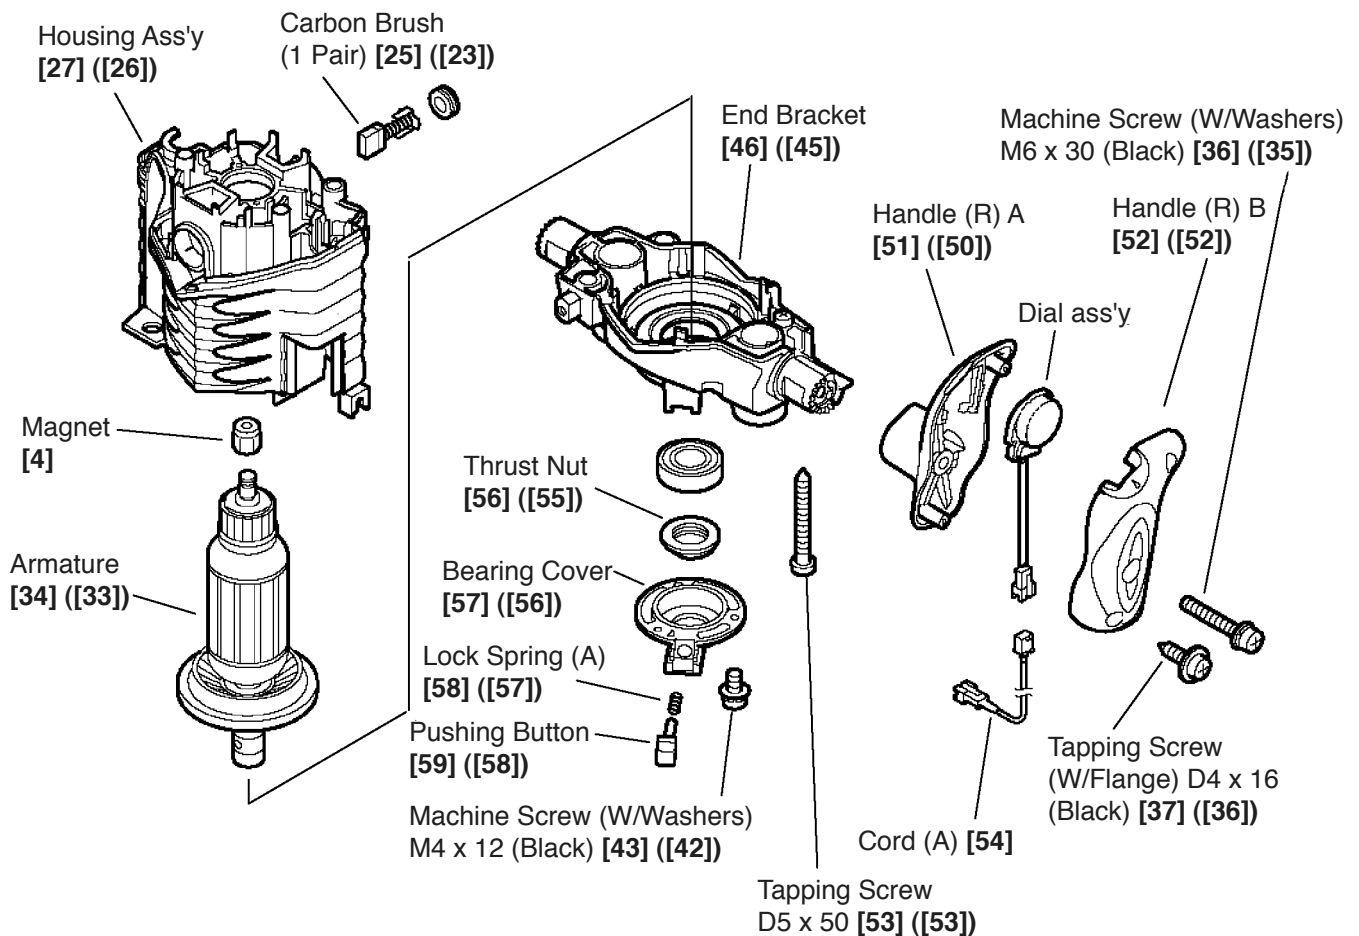

Fig. 5
- (4) Remove the Armature [34] ([33]) and the End Bracket [46] ([45]) (Fig. 5)
- Loosen and remove the two Tapping Screws (W/Flange) D4 x 16 (Black) [37] ([36]) and the Machine Screw (W/Washers) M6 x 30 (Black) [36] ([35]), and remove Handle (R) B [52] ([52]).
- Disconnect Cord (A) [54] from the dial ass'y of the Controller Package [3], and remove Handle (R) A [51] ([50]). (Model M 8V2 only).
- Loosen and remove the three Machine Screws (W/Washers) M4 x 12 (Black) [43] ([42]), remove the Bearing Cover [57] ([56]), Pushing Button [59] ([58]) and Lock Spring (A) [58] ([57]).